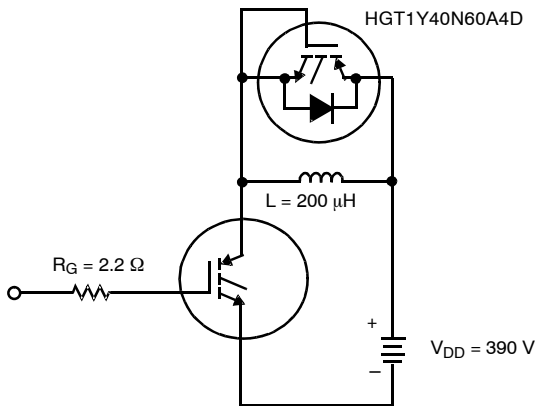

Figure 20. INDUCTIVE SWITCHING TEST CIRCUIT
- Values for two Turn-On loss conditions are shown for the convenience of the circuit designer. E_{ON1} is the turn-on loss of the IGBT only. E_{ON2} is the turn-on loss when a typical diode is used in the test circuit and the diode is at the same T_J as the IGBT. The diode type is specified in Figure 20.